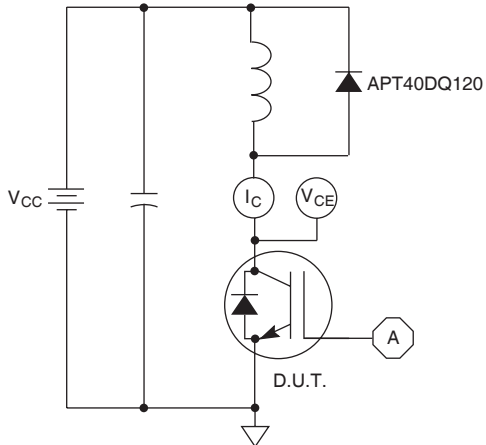

Figure 21, Inductive Switching Test Circuit
- ① Repetitive Rating: Pulse width limited by maximum junction temperature.
- ② For Combi devices, I_{ces} includes both IGBT and FRED leakages
- ③ See MIL-STD-750 Method 3471.
- ④ E_{on1} is the clamped inductive turn-on energy of the IGBT only, without the effect of a commutating diode reverse recovery current adding to the IGBT turn-on loss. Tested in inductive switching test circuit shown in figure 21, but with a Silicon Carbide diode.
- ⑤ E_{on2} is the clamped inductive turn-on energy that includes a commutating diode reverse recovery current in the IGBT turn-on switching loss. (See Figures 21, 22.)
- ⑥ E_{off} is the clamped inductive turn-off energy measured in accordance with JEDEC standard JESD24-1. (See Figures 21, 23.)
- ⑦ R_G is external gate resistance, not including $R_{G(int)}$ nor gate driver impedance.
- ⑧ Continuous current limited by package lead temperature.